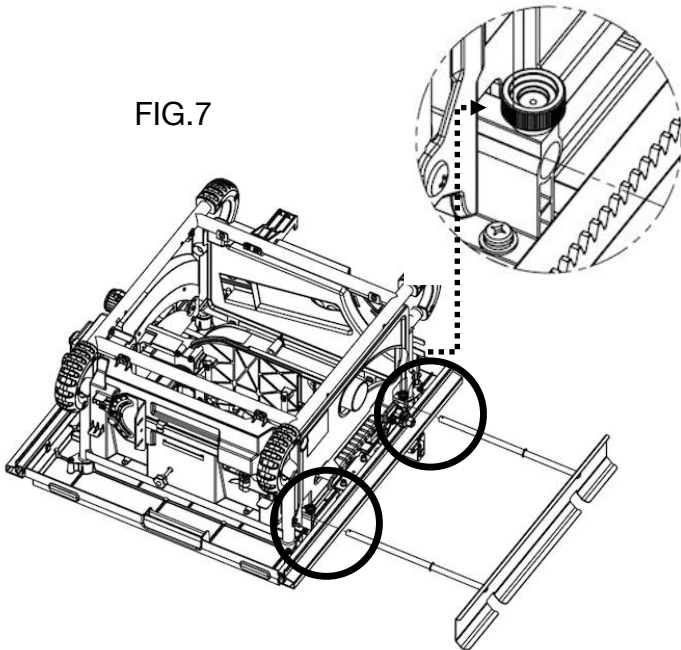

FIG. 7
STEP 2: Loosen both knobs on the rear side of the saw and insert the extension rods into the holes. Tighten both knobs at the desired adjustment as shown in **FIG. 7**.